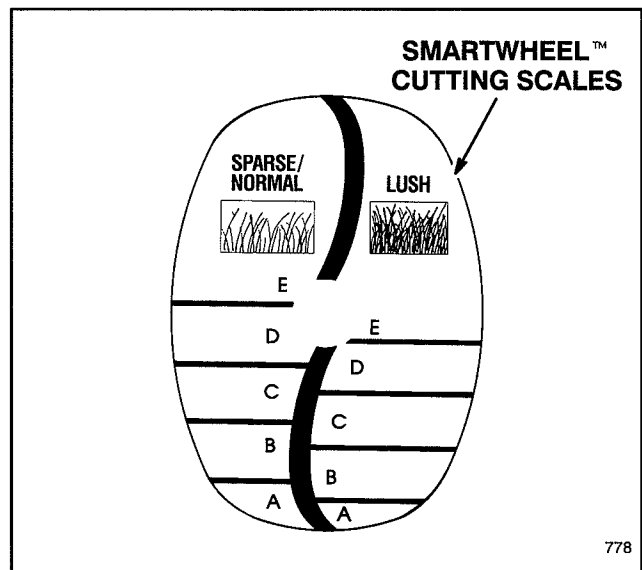

Figure 8
1. Before starting the engine and beginning to mow, push the mower into the grass. Stop when the words SPARSE/NORMAL and LUSH are upright on the SmartWheel design on the rear left wheel (Fig. 8).
2. Using the color coded SmartWheel design (Fig. 8), compare the tips of the grass blades to the colors/letters on the wheel. Whichever color/letter the tips of the grass blades correspond with is the proper cutting height.